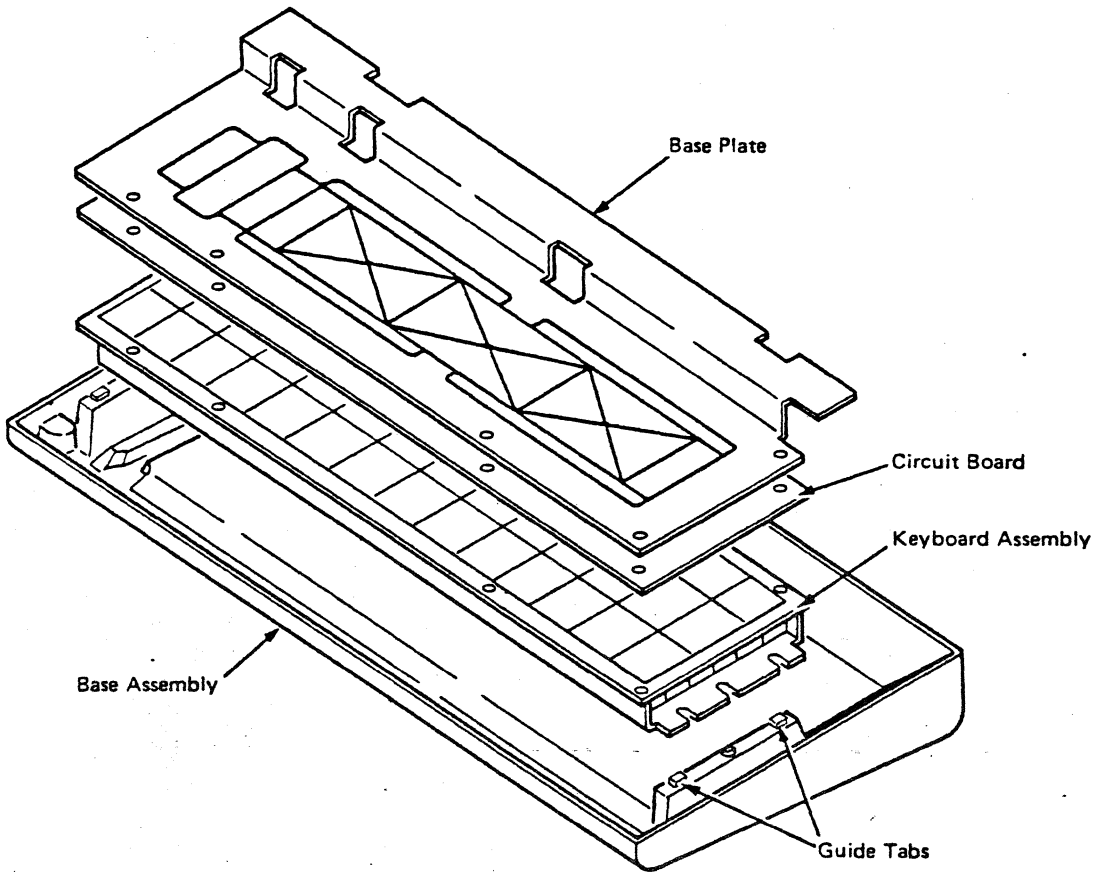

Figure 4-8. Key Module Removal
1. Remove the eight screws holding the base plate and circuit board to the key assembly (see Figure 4-8).